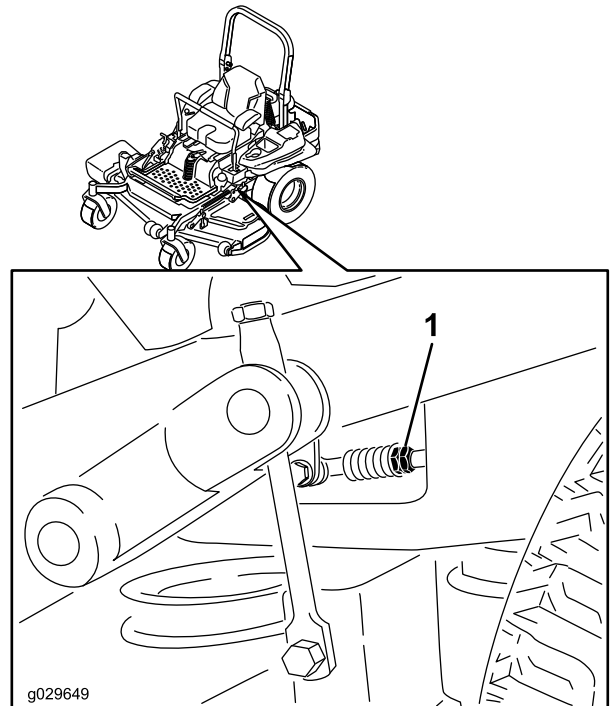

Figure 84
7. Bring the motion-control levers into the neutral position. Adjust pump control rod lengths by rotating the double nuts on the rod in the appropriate direction until the wheels slightly creep in reverse (Figure 84). Move the motion-control levers to the reverse position and while applying slight pressure to the lever allow the reverse indicator springs to bring the levers back to neutral. The wheels must stop turning or slightly creep in reverse.